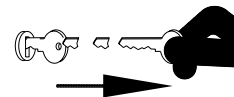

FIG. 2-15
3. Remove and discard shipping bracket for right-hand sideboard, Figures 2-15 & 2-16.